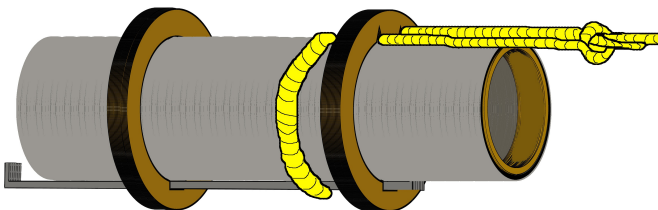

Figure 3
- **Step 3** Tie a knot about 5” from one end of the Kevlar thread. From the front of the forward ring, as shown in Fig. 3, push the short end of the thread through one of the “V” notches. Loop the thread around the mount, and push the tip of the thread through the other “V” notch from the back.